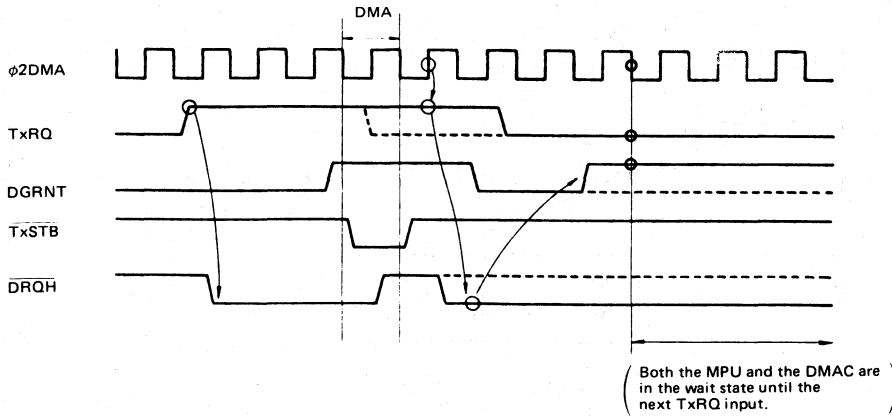

Figure 15 Extraordinary TxRQ Input (2)
- (2) In the case where TxRQ is not reset to "Low" though TxSTB has been driven. In this case, unless TxRQ returns to "Low" by the time  $\phi_2$ DMA rises after TxSTB has risen to "High", it is considered as a new I/O request, which leads the above-mentioned operation ①, ② → . If TxRQ falls to "Low" immediately after that, the same state as (1) happens (Fig. 15).